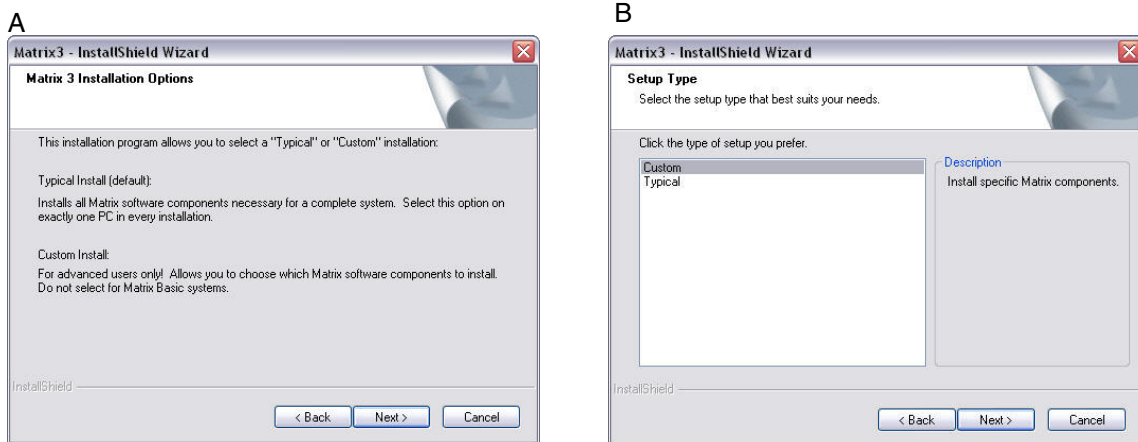

FIG. 14
- After clicking NEXT to accept the License Agreement, the Installation Options screen (A) shown in FIG. 14 displays. This screen describes the two installation options available for selection.
After clicking NEXT, the Setup Type screen, FIG. 14 (B), displays. This screen is used to select the type of installation you will do.